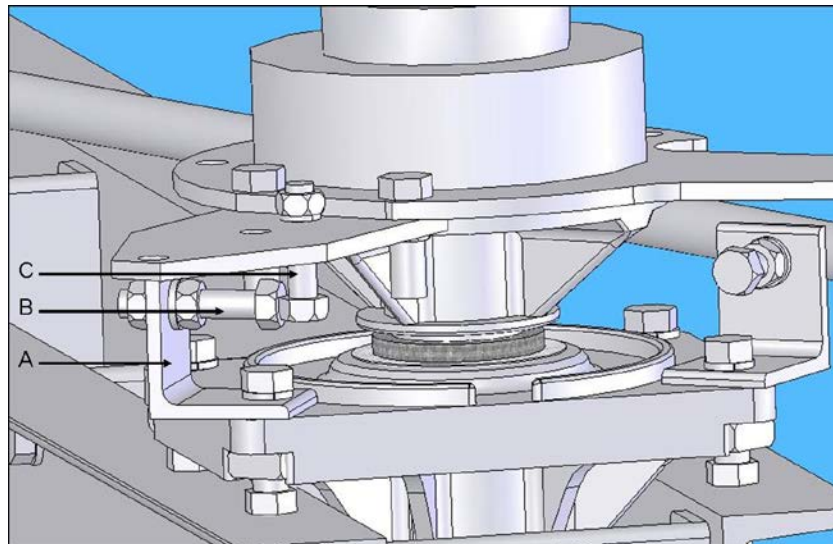

Figure 10: Blade Stops (Heavy Duty Bearing)
2. Back off the Blade Stops on insulator stack, Refer to **Figure 10**.
3. With the male and female blade assemblies in the closed position verify, using a level, that both blades are in the same plane and that their centerlines are aligned. A slight variance is acceptable provided that the male contact is approximately perpendicular in the female contacts. Refer to **Figure 10**.
7. Use only DRIVING phase stop to set up the switch, with the other two stops completely backed off, then adjust the crank arm stop or rest within 1/4" inch of the blade stops (Refer to **Figure 10**). If adjustment is necessary, loosen the nuts on the adjusting bolt and adjust the bolt until the distance between the blade stop and the stop is correct. Torque the nuts to proper value. (See Table 2)